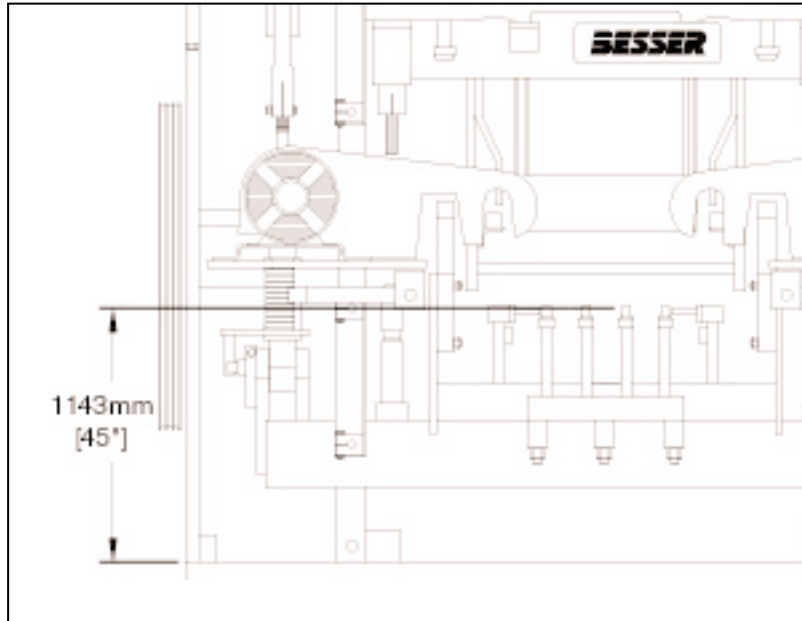

Figure 4.62 PALLET RECEIVER RUBBERS ABOVE BASE PLATE.
4.4.6 Run machine to "first stop." Turn off clutch and drive motor, and adjust the pallet receiver links to obtain a dimension of **1143mm [45"]** from the top of the base plate to the tops of the pallet receiver rubbers (see figure 4.62). This adjustment should expose approximately **600mm [23 5/8"]** of link